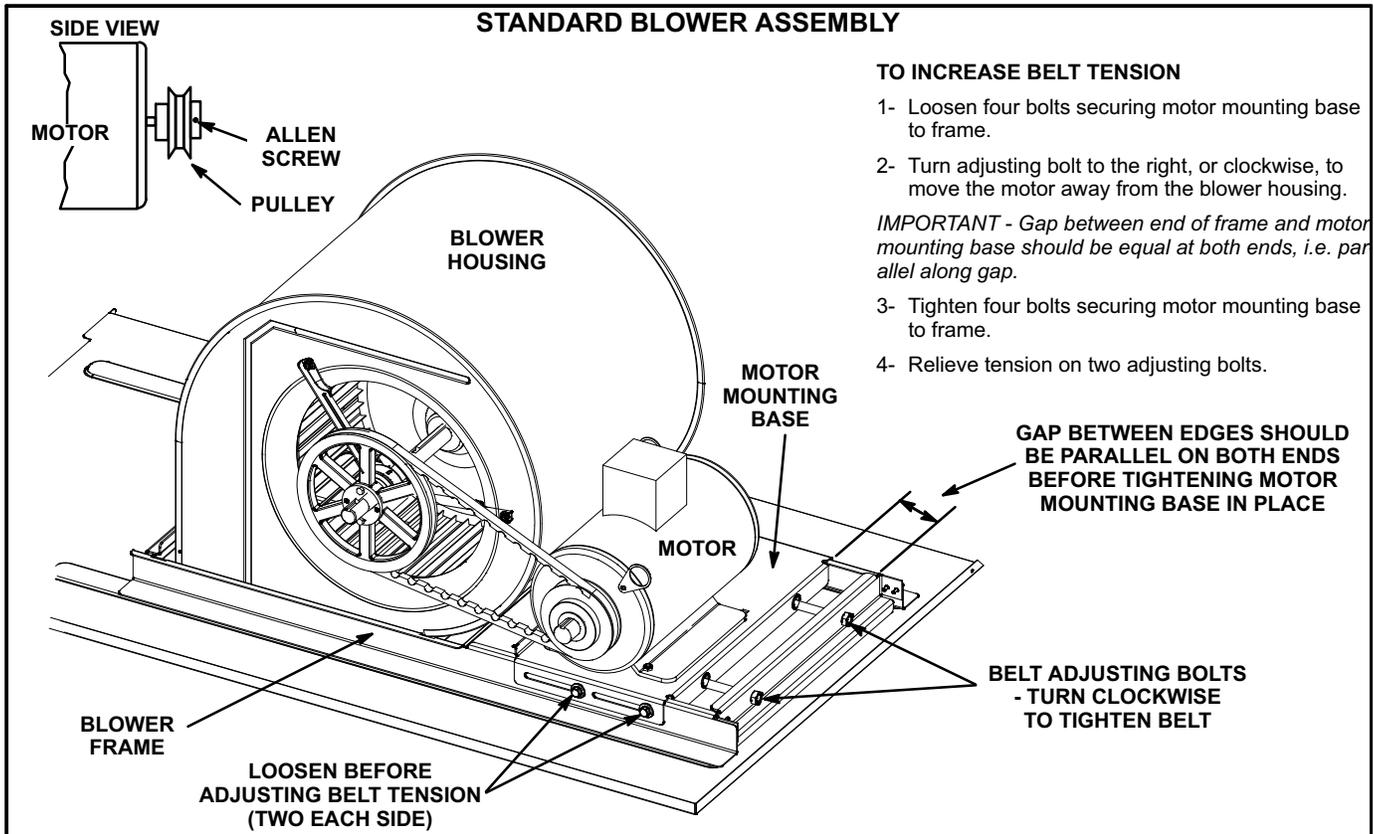

FIGURE 6
The blower assembly is secured to a sliding frame which allows the blower motor to be pulled out of the unit. See figure 6.
- 5- The blower RPM can be adjusted at the motor pulley. Loosen Allen screw and turn adjustable pulley clockwise to increase CFM. Turn counterclockwise to decrease CFM. See figure 6. Do not exceed minimum and maximum number of pulley turns as shown in table 1.
- 1- Loosen four bolts securing motor base to mounting frame. See figure 6.